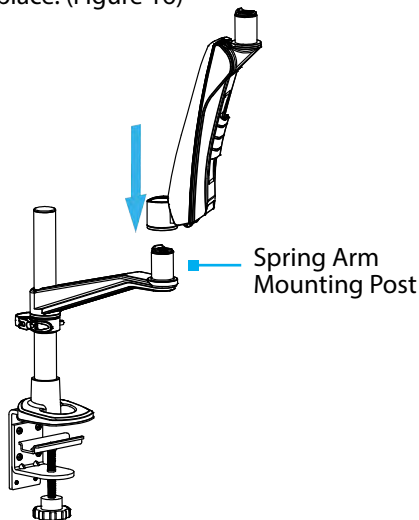

Figure 16
- Slide the **Spring Arm** onto the **Spring Arm, Mounting Post** until snaps into place. (Figure 16)